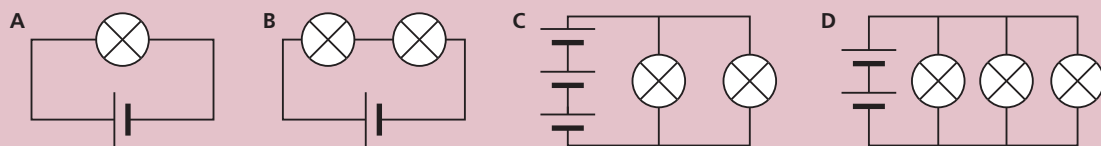

FIGURE 2.6.20a
8. Figure 2.6.20a shows four circuits A–D. Which of the following shows the correct order from the circuit that gives the brightest bulbs to the one that gives the dimmest? [1]